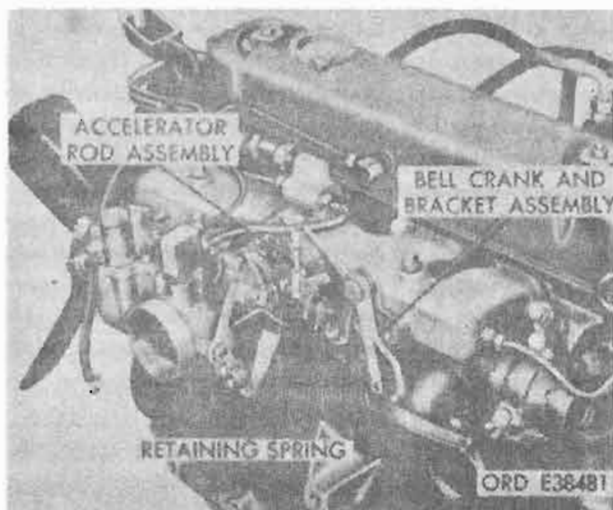

Figure 4-293. Installation of accelerator bellcrank.
b. Install Accelerator Bellcrank, Bracket Assembly and Attaching Parts. Position accelerator bracket assembly on mounting pad provided on rear of intake manifold. Install two 1/4-20x1/2 hex-head screws and washer assemblies and tighten to 3-5 lb.-ft. torque. Install one end of accelerator rod assembly over ball stud on carburetor throttle lever, and other end over ball end of bellcrank. Attach one end of accelerator return spring in hole provided in retaining bracket, and other end in slot provided in bellcrank arm (fig. 4-293).